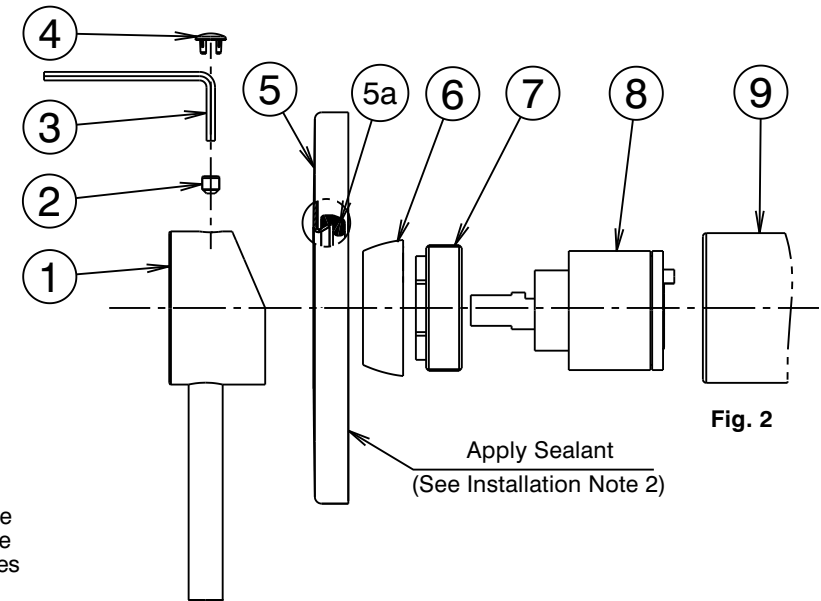
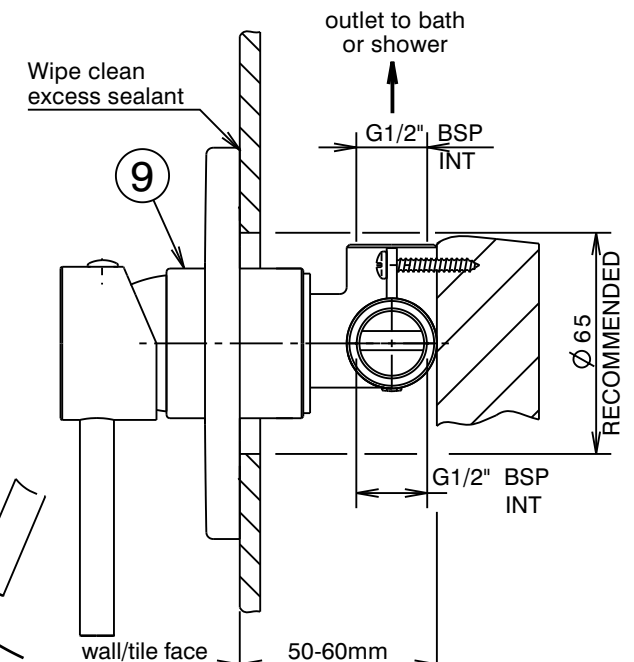

Fig. 2
Fig. 1
Installation (Fig. 1 & 2)
- * Mixer body (9) must be installed square to wall/tile face, to ensure cover plate (5) sits flush.
- 2) **Trim kit:** Apply a suitable clear sealant to the back face of the cover plate (5), leaving an unsealed section at the bottom for drainage. Check that the seal (5a) is fitted in the cover plate (5) as shown (Fig.2), then carefully slide the cover plate (5) over the mixer body (9). Push the cover plate (5) firmly against the wall/tile face. Wipe/clean excess sealant from the chrome surfaces & the wall/tile face (See Fig. 1).
- 4) Fit handle (1) taking care that it is pushed fully onto cartridge stem, then tighten grub screw (2) using the 2.5mm allen key (3). Fit plug (4), taking care not to damage the decorative finish.
Replacing Cartridge (Fig. 2)